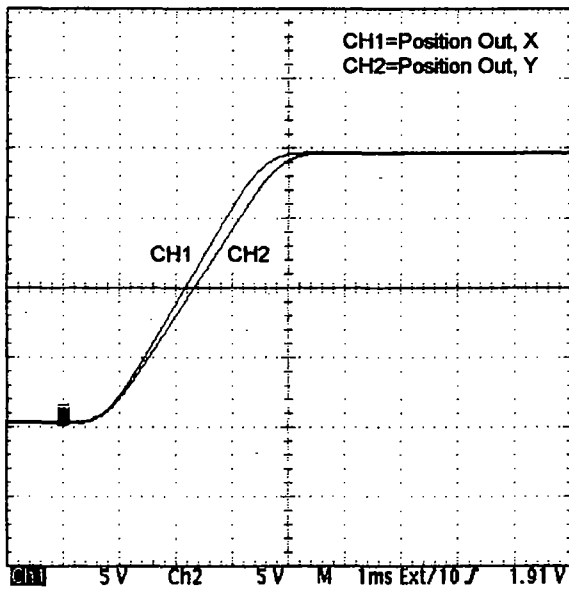

Figure 34.
7. Input a full-field signal. See figure 34. While monitoring both channels, slow the faster channel's slew rate limiter trimpot, R78 to make the signals are equally fast. When done, the system should look like Figure and 35.